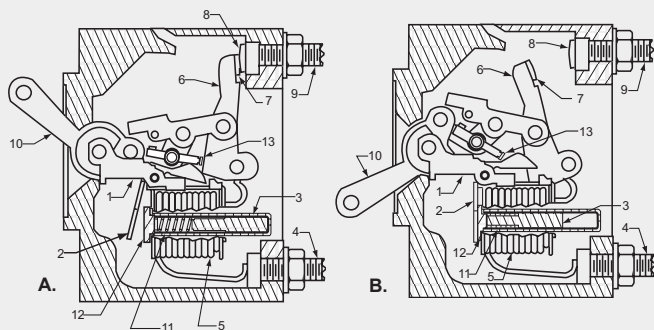

Fig. 12 Operating mechanism of an Airpax magnetic circuit breaker.
All trip times and 100 percent hold specifications, as shown on delay curves, assume that the circuit breaker is in a normal mount position as illustrated in Figure 12. With the delay mechanism situated on the horizontal plane, gravity has little or no effect on the core. Obviously, if the delay mechanism is mounted vertically or at any angle, gravity will have either an impeding or increasing effect on the movement of the delay core. If the unit is mounted with gravity impeding, it's likely that the breaker will not trip at the rated trip current. Its ultimate trip current will be beyond the range indicated in the delay specifications for the breaker. Conversely, if gravity is aiding, the ultimate trip current may be less than the 100 percent hold specified.
The magnetic breaker shown in Figure 12 is essentially a toggle switch composed of a handle connected to a contact bar which opens and closes an electrical circuit as the handle is moved to the “ON” or “OFF” position. The handle is connected to the contact bar by a link which is collapsible.
As long as the current flowing through the unit remains below 100 percent of the rated current of the unit, the mechanism will not trip and the contacts will remain closed as shown in Figure 12 (a). Under these conditions, the electrical circuit can be opened and closed by moving the toggle handle (10) on and off.
If the current is increased to a point between 100 percent and 125 percent of the rated current of the unit, the magnetic flux generated in coil (5) is sufficient to move the delay core (3) against spring (11) to a position where it comes to rest against pole piece (12) as shown in Figure 12 (b).
The movement of this core against the pole piece increases the flux in the magnetic circuit described above enough to cause the armature (2) to move from its normal position shown in Figure 12 (a) to the position shown in Figure 12 (b). As the armature moves it trips sear pin (13) which, in turn, triggers the collapsible link of the mechanism, thus opening the contacts.